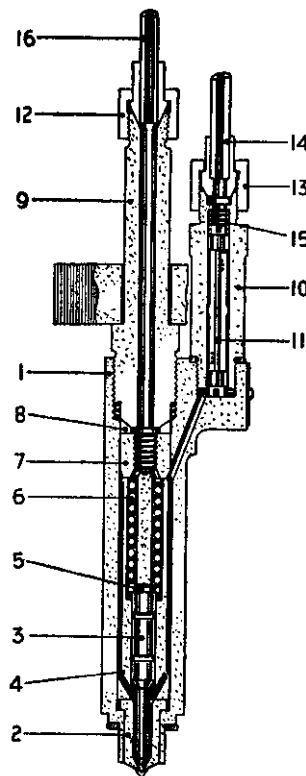

Fig. 1
- ii. Place fuel pump cut-out lever in the running position See (3), Fig. 1.
All parts should now be well washed in clean paraffin and the injector body well rinsed out, the holes of the nozzle 2, Fig. 1, being cleaned out with the wire provided.
MARK 37 INJECTOR. Fig. 1